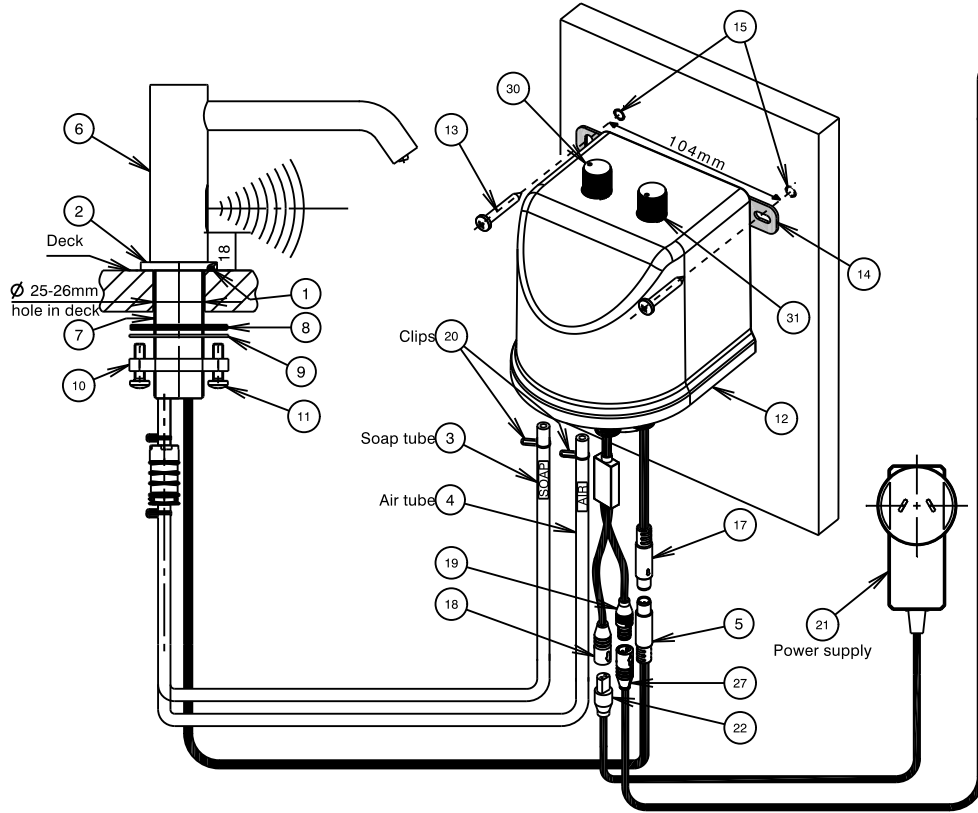
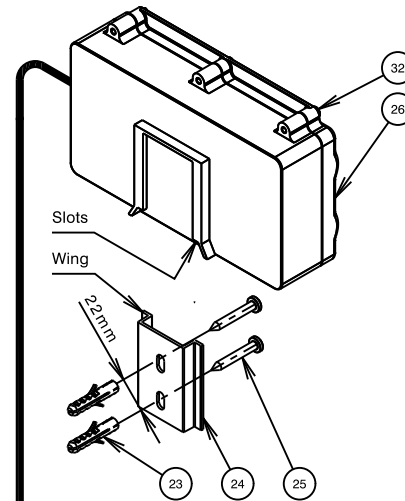
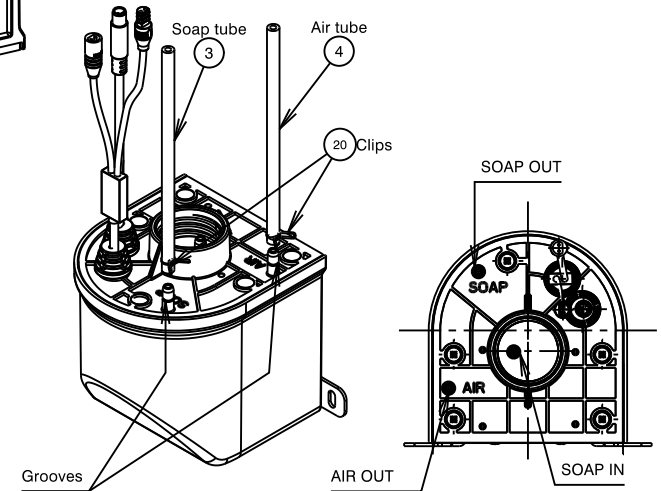

Fig. 2 - Sensor unit installation
Fig. 6 - Battery box installation
Fig. 5
- 1) Ensure 'O'ring (1) is fitted into groove in base ring (2).
- 2) Insert the soap tube (3), air tube (4) and sensor cable (5) through the hole of base ring (2). Pass base ring (2) through threaded tube (7) until the base ring (2) sits against bottom of sensor body (6).
- 3) Insert soap tube (3), air tube (4) and sensor cable (5) through the hole in the deck. Insert threaded tube (7) into deck hole, orientate sensor body as required. From under the deck, insert soap tube (3), air tube (4) and sensor cable (5) through flat seal (8), washer (9) and clamp ring (10) in order, then fit flat seal (8) followed by washer (9) over threaded tube (7) as shown in Fig. 2. Screw clamp ring (10) onto threaded tube (7) until it contacts washer (9) & the flat seal (8) has contacted the underside of the deck. Tighten two screws (11) equally until sensor assembly is clamped firmly to the deck. DO NOT OVERTIGHTEN.
- i) Drill two Ø6mm holes, 40mm deep and 104mm apart horizontally as shown in Fig. 2.
- ii) Insert small end of wall plugs (15) into drilled holes and tap until flush with wall/tile face.
- iii) Align the slots on fixing plate (14) with the holes on the wall, pass the screws (13) through the slots and insert into the wall plugs (15). Then tighten the screws. DO NOT OVERTIGHTEN.
- i) Drill two holes at 104mm apart horizontally to suit the self tapping screws supplied as shown in Fig. 2.
- ii) Align the slots on fixing plate (14) with the holes on the wall, pass the screws (13) through the slots and insert into the holes in the stud. Then tighten the screws. DO NOT OVERTIGHTEN.
- i) Drill two holes at 22mm apart vertically to suit the self tapping screws supplied as shown in Fig. 6.
- ii) Insert small end of wall plugs (23) into drilled holes and tap until flush with wall/tile face.
- iii) Align the slots on bracket (24) with the holes on the wall, pass the screws (25) through the slots and insert into the wall plugs (23). Then tighten the screws DO NOT OVERTIGHTEN.
- iv) Mount the battery box (26) onto wings of bracket (24).
- ii) Align the slots on bracket (24) with the holes on the wall, pass the screws (25) through the slots and insert into the holes in the stud. Then tighten the screws. DO NOT OVERTIGHTEN.
- iii) Mount the battery box (26) onto wings of bracket (24).
a) Soap tube and air tube connections, (Fig. 2 & Fig. 5):
b) Sensor cable connection, (Fig.2):
By aligning the profile of connectors (5) & (17), connect the sensor cable (5) from the outlet to the end of sensor cable (17) of soap control unit as shown in Fig. 2.
While aligning the 'D' profile of male and female connectors Connect male connector of power cable (22) to female connector (18) of soap control unit (12) as shown in Fig. 2. Connect male connector (19) from control unit (12) to female connector (27) of battery box (26). Ensure all cable connectors are pushed in fully.
7) Adding/Replacing batteries, (Fig. 6)